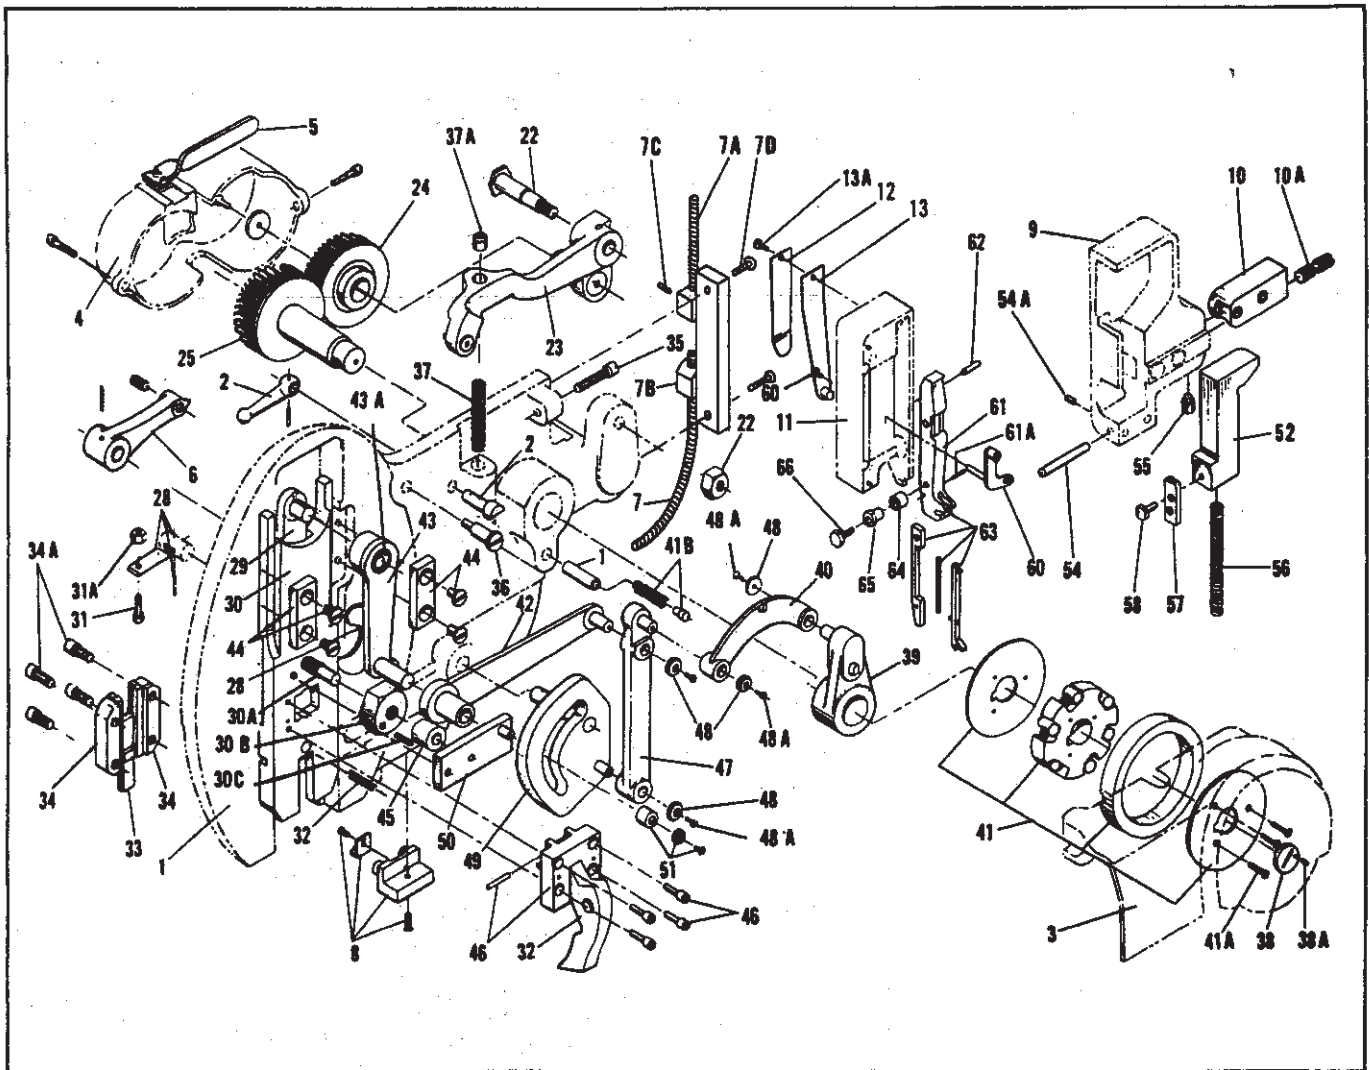
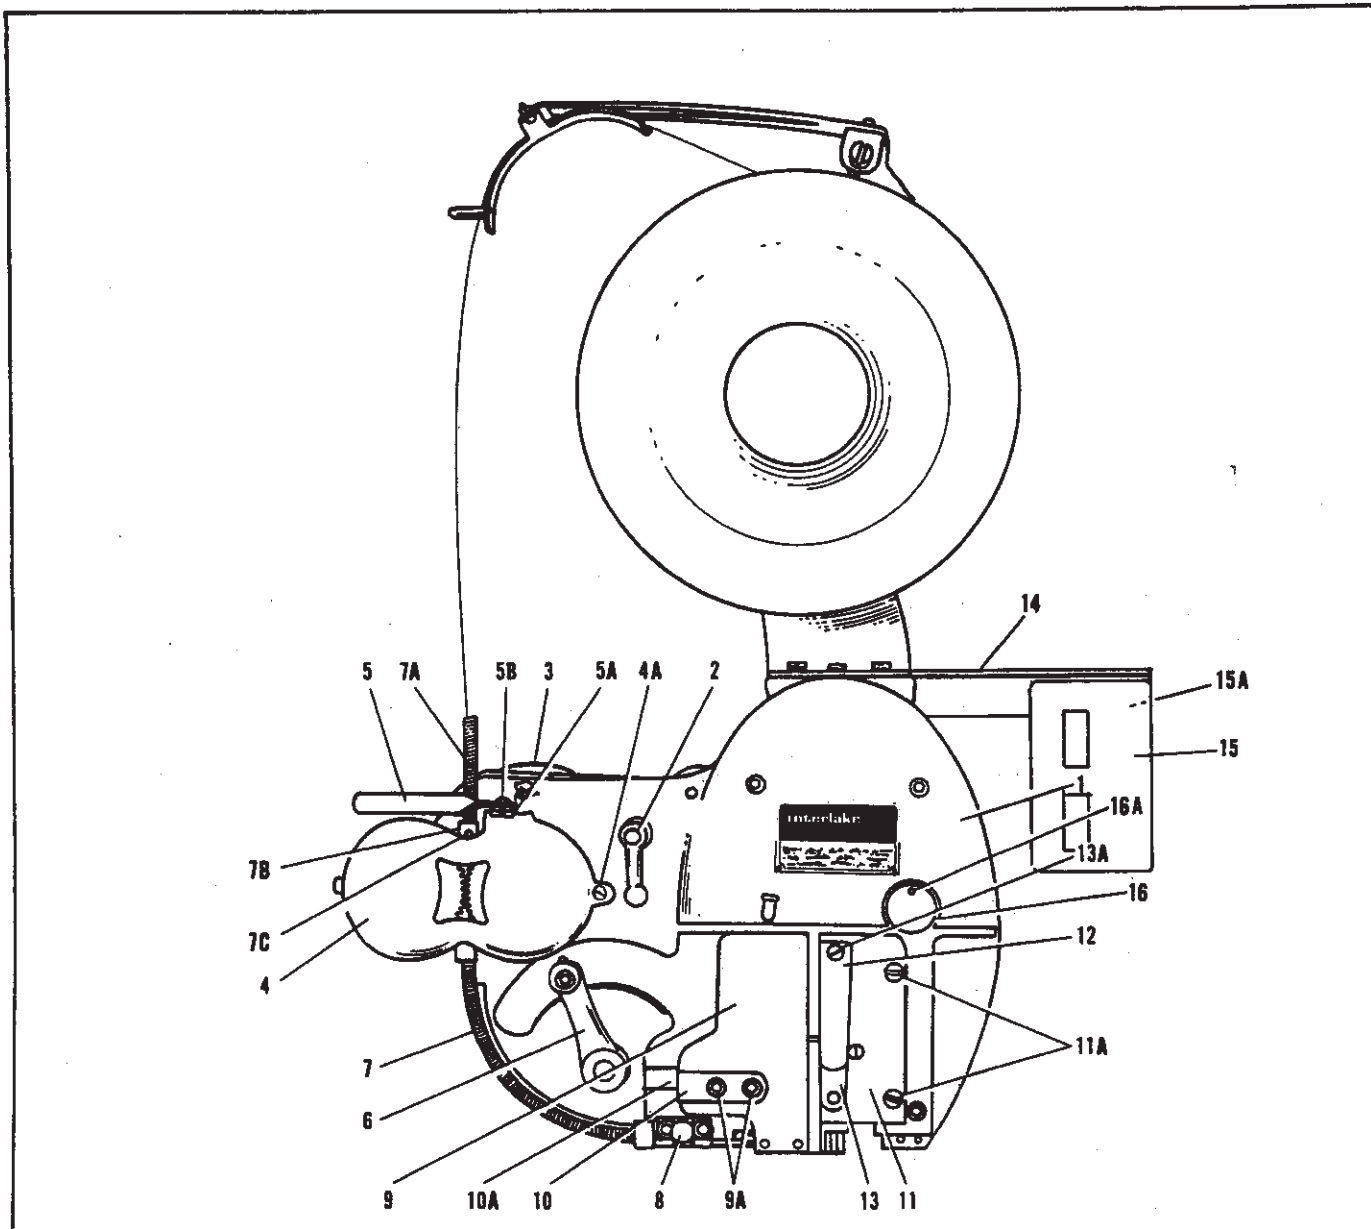

FIGURE 17
FIGURE 18
(1) Remove the front block (11, figure 18). (2) Step on foot pedal and slowly turn machine over by hand. The wire should come out of the cut-off die horizontally. (3) If the wire turns up, loosen set screw (8, figure 18) and move adjusting slide upward. If the wire curves down, loosen set screw and move adjusting slide down. (4) Tighten set screw. (5) Check wire as it comes out of cut-off die to determine if further adjustment is necessary.
The cutter block (9, figure 18) contains the cut-off die, flat knife and the parts required to equalize the stitch leg length. The adjusting slide, (10, figure 18) is directly connected to the wire draw linkage in the back of the stitcher head. The cutter block is adjusted on this slide to move the cut-off position in relation to the center of the stitch (this adjustment does not alter the amount of wire feed). The length of the shorter leg is increased by decreasing the length of the longer leg. Any adjustment made should therefore be one half of the original stitch leg variation. Check for improper adjustment of the cutter block by driving ten stitches into the work material. Adjustment is required if one leg is consistently short. Note if it is the right or left leg (as you face the stitcher) which is short.
(1) Make certain that the index lever set screw ( 6 figure 18) is tight. (2) Loosen the cutter block screws (9A figure 18) one-half turn and the set screw (55, figure 17) not more than one-eighth turn. (3) To increase the length of a short right leg, turn the adjusting screw (10A, figure 18) clockwise. For a short left leg turn the adjusting screw counterclockwise. (4) Press the cutter block to the left as far as possible. Tighten the cutter block and set screws. (5) Drive several stitches (the new adjustment will not show up until after the third stitch). (6) Repeat above steps if necessary.
(1) Feed the wire through the wire straightener (8, figure 18) but not into the cut-off die. (2) Operate the stitcher under motor power until approximately two feet of wire have been fed. The arc section should measure .028" to .032" thick. (3) If the wire measures less than .028", increase tension by turning set screw (37A figure 18) clockwise one or two turns. If there is excessive tension, turn set screw counterclockwise one or two turns. (4) Repeat steps 1 and 2 to recheck tension.
(1) Remove wire feed guard (3, figure 17). (2) Loosen set screw (38A, figure 17). (3) Remove screw (38, figure 17) and slide clutch from shaft. (4) Remove three screws (41A figure 17) and lift off front plate (41, figure 17). (5) Dip parts in a grease solvent and wipe dry. (6) Inspect the springs for signs of wear along the sides which contact the front and back plates. (7) Inspect the spider for wear in the bottom of the grooves which hold the rollers. (8) Inspect the rollers for wear. If these parts are worn, the wedging action of the rollers against the outer ring is lost. (9) Replace worn parts. (10) Oil parts lightly and reassemble.
The wire feed clutch brake assembly (41B, figure 17) prevents overfeed. Keep the part clean and free of oil.
The exploded view on this page contains all the parts in the stitching head. These parts and index numbers are duplicated in Figures 18 to 22 along with a complete listing of part numbers and part names.